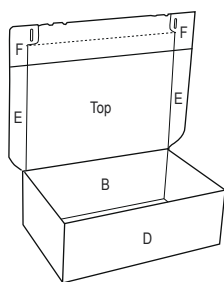

Figure 5
5. Fold in left and right flaps (E) at sides of top. (See Figure 5)